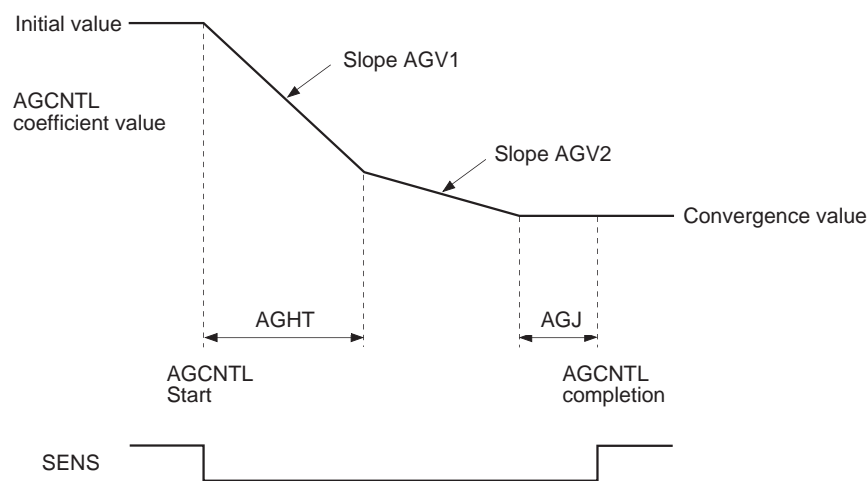

Fig. 4-5.
An example of AGCNTL coefficient transitions during AGCNTL in various settings are shown in Fig. 4-5.
**Note)** Fig. 4-5 shows the example where the AGCNTL coefficient value converges to the smaller value from the initial value.